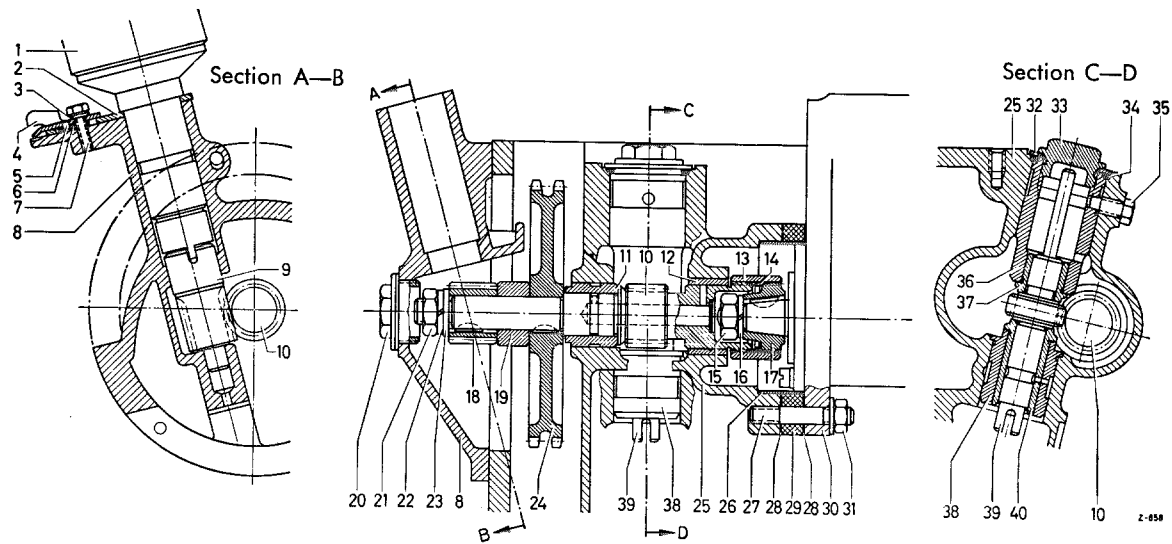

Fig. 18-1/6
On Model 220 SE the oil pump, the distributor, and the injection pump are driven by the idling gear shaft. The injection pump is connected with the splines at the rear end of the idling gear shaft (10) by means of a coupling sleeve (13) (Fig. 18-1/6). The helical gear (9) for driving the distributor (1) is carried in a cover screwed to the crankcase (Section A-B) and engages with the drive sleeve (18) on the idling gear shaft. As on other models the oil pump is driven by the idling gear shaft (10) via the helical gear (39) which is carried at the bottom in the bearing assembly (38) in the crankcase and at the top in the pressure piece (36). The pressure piece is sealed by means of the rubber ring (34), the cover disk, (32), and the screw plug (33) and is secured by means of the hexagon screw (35) (Fig. 18-1/6).